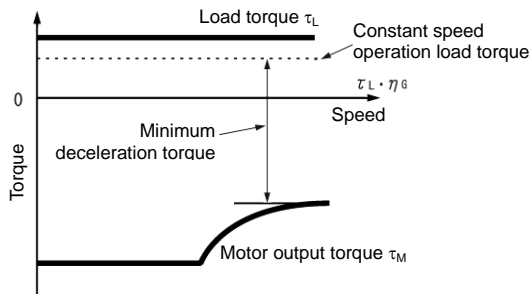
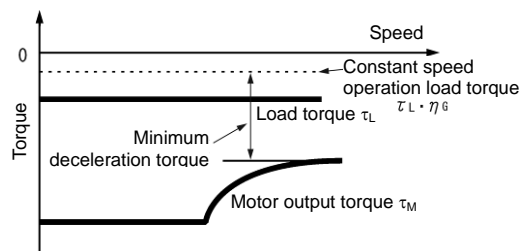

Figure 9.1-4: Example of minimizing deceleration torque (1)
Figure 9.1-5: Example of minimizing deceleration torque (2)
2) Calculate the "Minimum deceleration torque." (Refer to Figure 9.1-4 and Figure 9.1-5)
When the load torque is positive, see Figure 9.1-4.
When the load torque is negative in cases such as the braking load in elevators, see Figure 9.1-5. Exercise caution in this case as the minimum deceleration torque is decreased due to the regeneration activity.